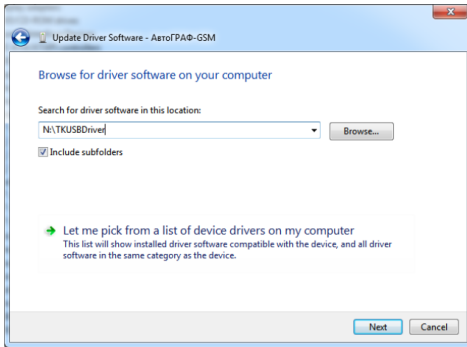

Figure 3.
5. Browse to the location where the drivers are saved (Fig.3).